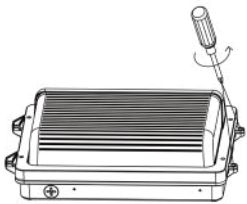

Fig. 2.1
1. Remove both screws on the side of the luminaire with a screwdriver (Fig 2.1).